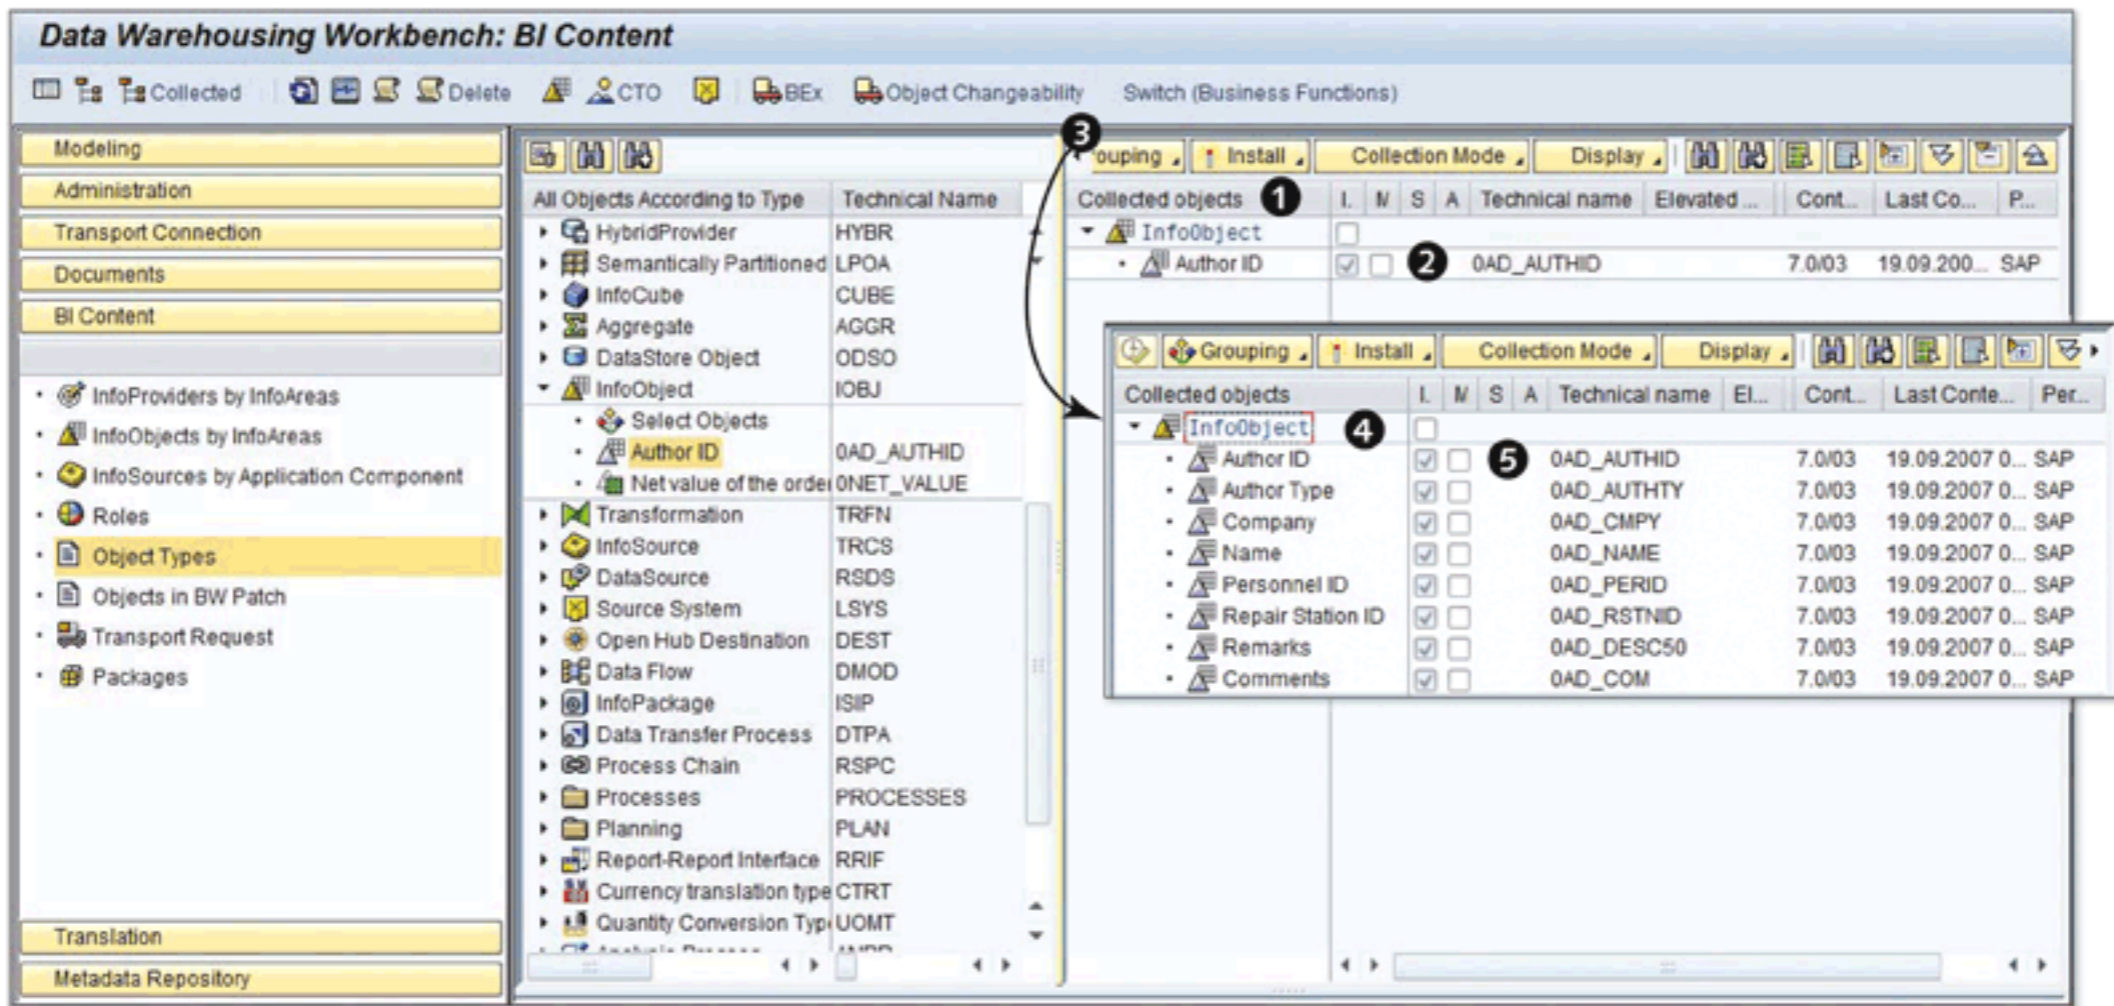

Figure 2.29 InfoObject Selected and Objects Collected
InfoObject OAD_AUTHID is now available under COLLECTED OBJECTS, as shown in ① of Figure 2.29. The INSTALL column shows a tick for this InfoObject (②). This tick isn't available for editing (in gray) and indicates that the InfoObject isn't active. Click on the EXECUTE icon () , as shown in ③. The system now collects all of the necessary objects that are required to activate InfoObject OAD_AUTHID and lists them (④).
If the list shows an object that is already active, you can reactivate it from BI CONTENT. You can configure this by checking the MATCH or COPY column, as shown in ⑤ of Figure 2.29. There are multiple scenarios when you may need to execute reactivation; for example, you may have modified a BI CONTENT object and then want to revert to the original.